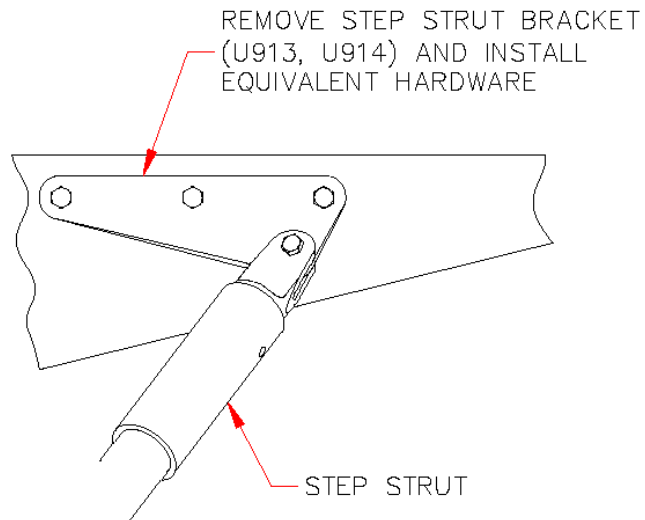

Figure 2
3. Remove Step Strut Bracket (U913 and U914), port and starboard – see Figure 2.